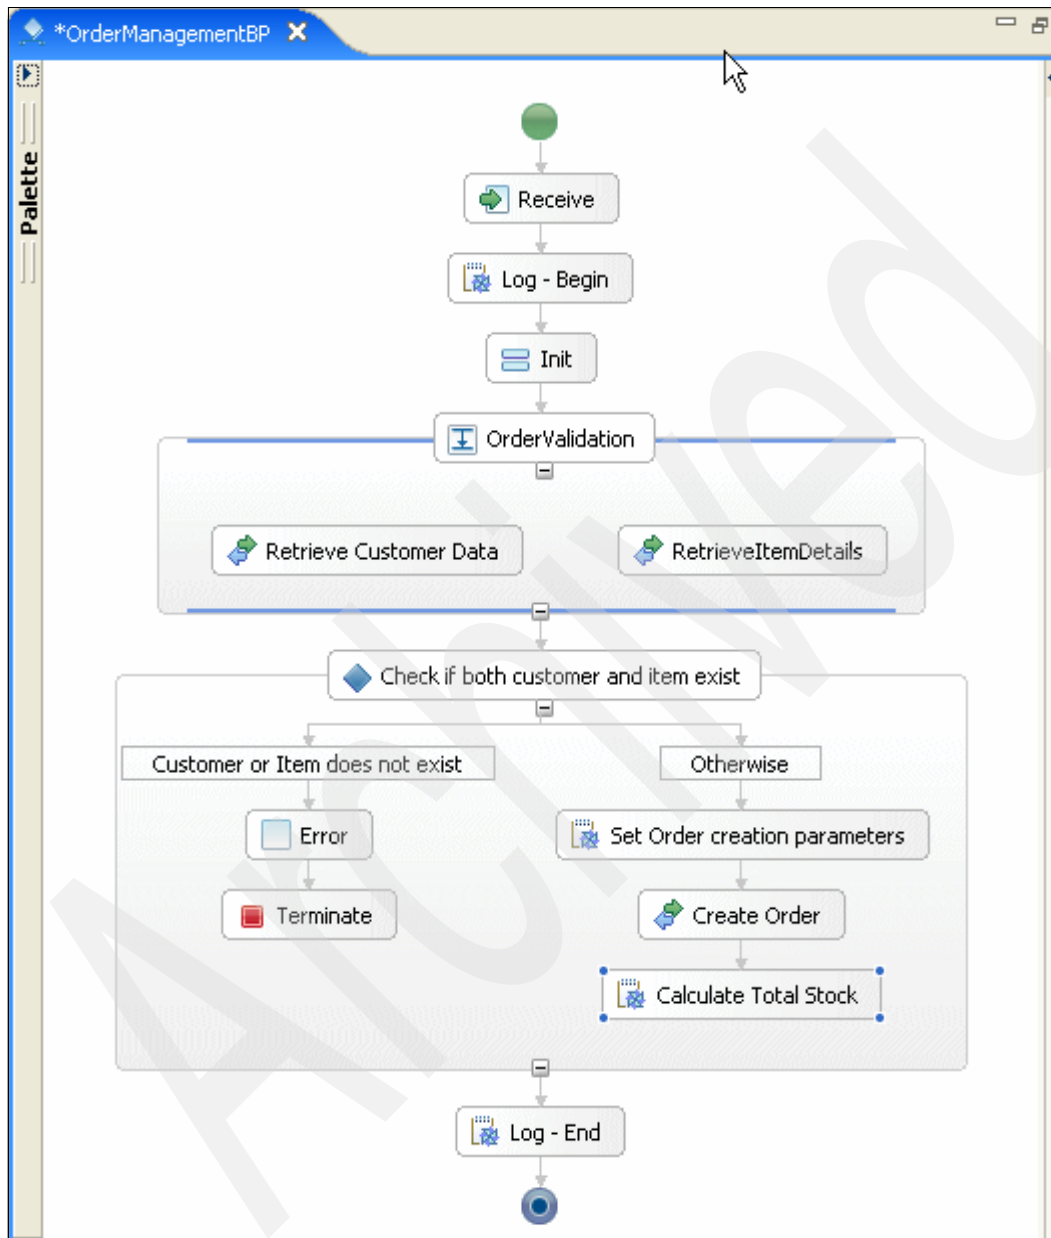

Figure 3-39 OrderManagementBP design
19. Verify that your BPEL looks as shown in Figure 3-39.